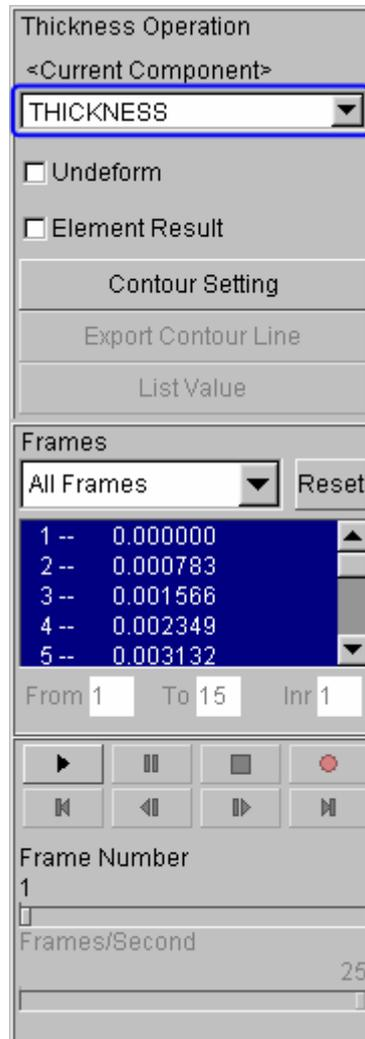

Figure 3.52 Thickness/Thinning contour
- Select **Current Component** from combo box, either THICKNESS or THINNING. The thickness contour of hydro formed tube is illustrated in Figure 3.52.